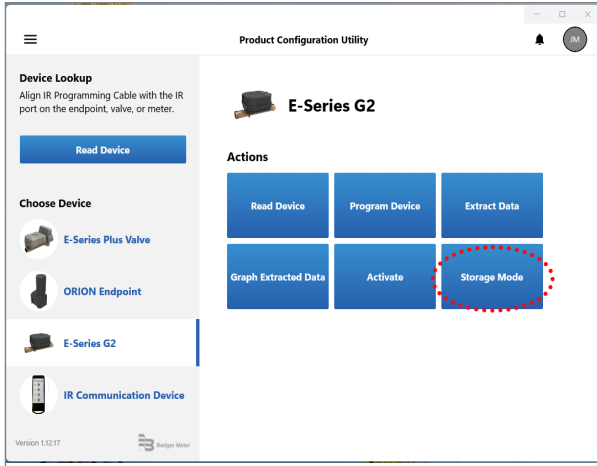

Figure 35: Select Storage Mode
2. Select the **Storage Mode** button (Figure 35) to place the meter into *Storage* mode .